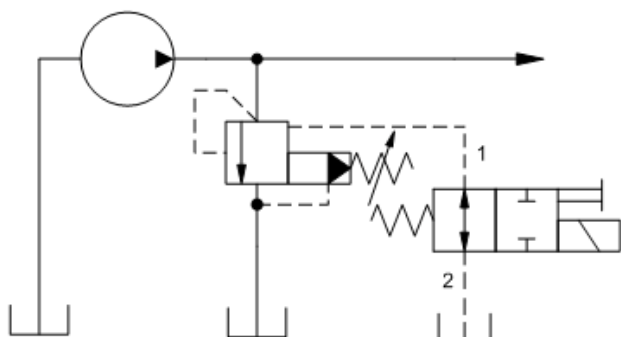

Figure 6.
- A common application for the 2-way version is to control the vent port of a vented relief valve. *(When a DAAL is open, the relief would be at its vented pressure. Closing the DAAL allows the relief to function at its pre-adjusted setting.)* (See Figure 6.)